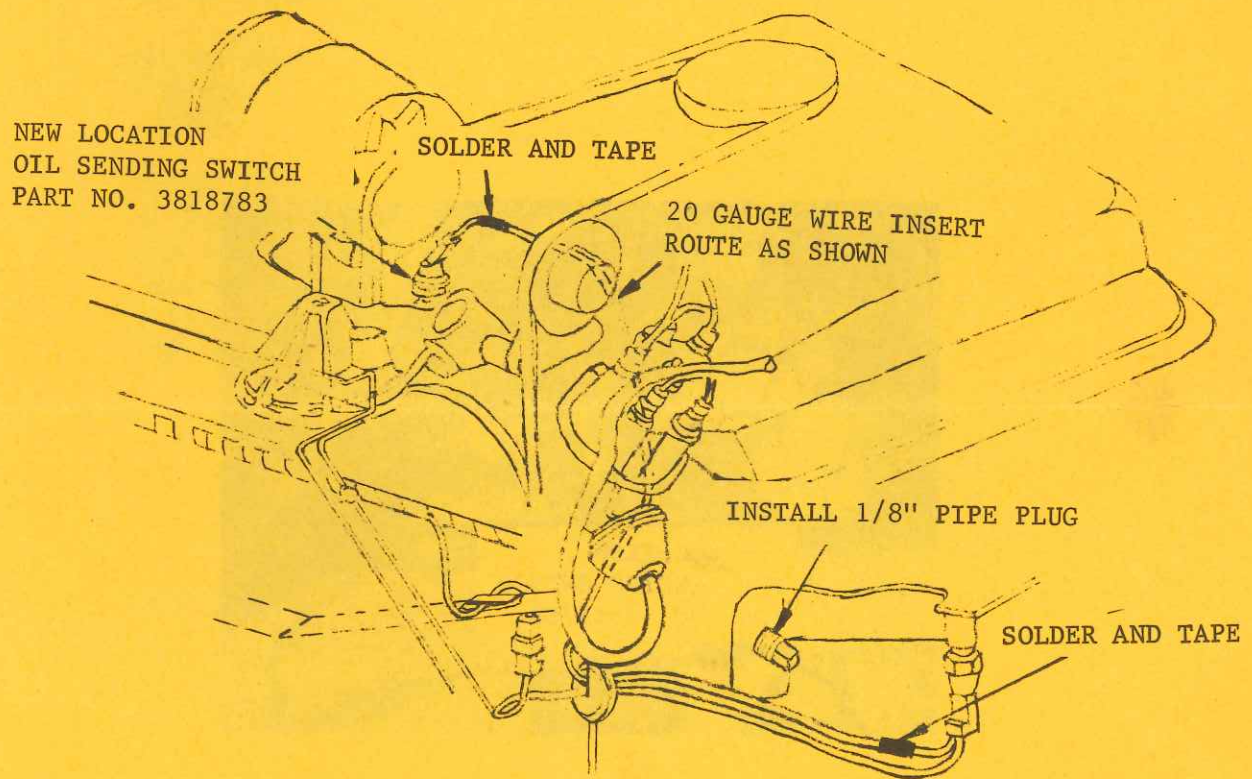

FIGURE 2.
1. Rework the existing rear extension wiring harness by cutting the wire between the oil pressure and temperature sending switches and lengthening it to 19" overall with a spliced insert of 20 gauge standard plastic insulated wire similar to the existing wire. Solder and tape both joints and route wire as shown in Figure 2.